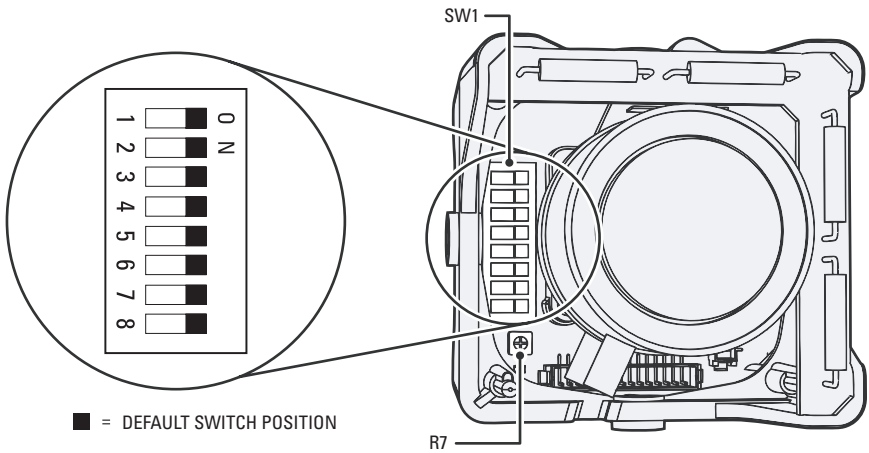

Figure 12. Adjusting the IS110-DW/CW Series Camclosure
Refer to Figure 12 to adjust the IS110-DW or IS110-CW model.
2. Select the camera to synchronize. Use the phase adjustment control (R7) to synchronize the camera to the reference camera (refer to Figure 12 on page 24). Turn R7 clockwise to increase vertical phase; turn R7 counterclockwise to decrease vertical phase.